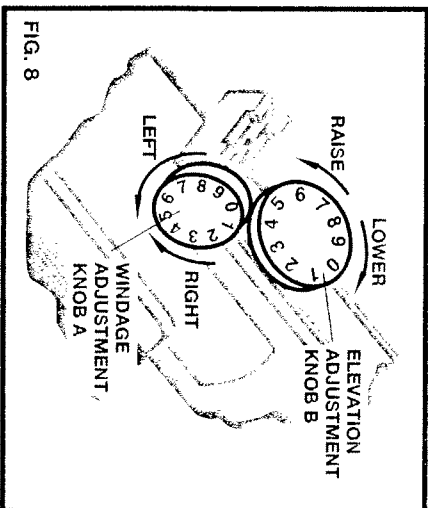

FIG. 8
**Windage:** To move the point of impact to the right, move the sight to the right by turning Knob A in a clockwise direction. To move the point of impact to the left, move the sight to the left by turning Knob A in a counterclockwise direction (See Fig. 8)
**Elevation:** (See Fig. 8) To move the point of impact up, move the sight up by turning Knob B counterclockwise. To move the point of impact down, move the sight down by turning Knob B clockwise.